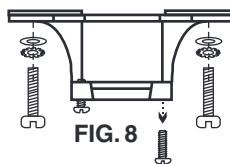

FIG. 8
C. 1. Take the hanging bracket and secure it to the outlet box (marked Acceptable For Fan Support) using the mounting screws provided with the outlet box, Fig 8. Tighten them evenly.
2. Remove one canopy screw (also Fig 8) and loosen the other. Make sure all of the wires are accessible and are not being pinched. Also, make sure the bracket doesn't wobble.